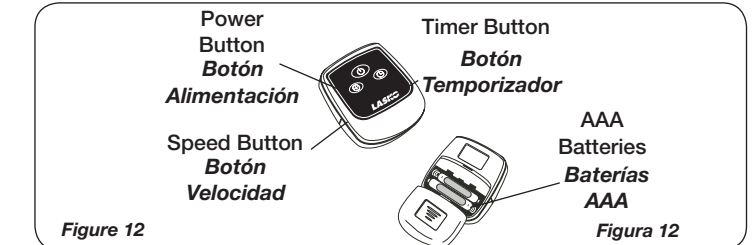

Figure 12
This Fan may be operated by the Manual Controls located on front of the unit (shown in Figure 13) or by the Remote Control (shown in Figure 12). Este Ventilador puede hacerse funcionar mediante los Controles Manuales ubicados en la parte superior de la unidad (como se muestra en la Figura 13) o con el Control Remoto (se muestra en la Figura 12).
- Install batteries (not supplied) as shown in Figure 12. The battery is size "AAA".